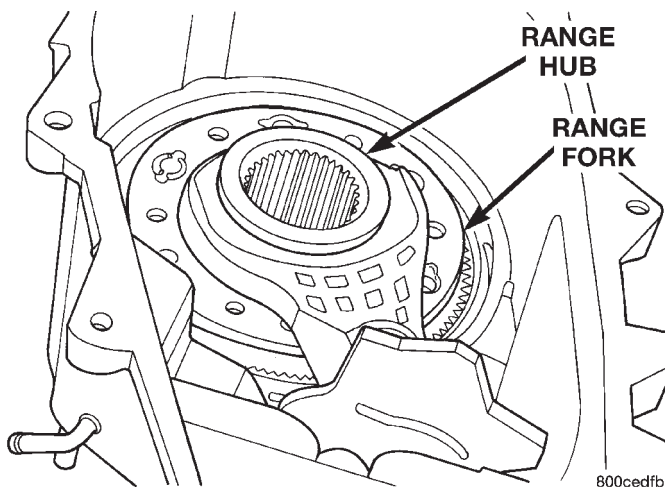

Fig. 60 Range Fork And Hub Assembly/Installation
(4) Assemble and install range fork and hub (Fig. 60). Be sure hub is properly seated in planetary carrier and engaged with input gear.
(5) Align and insert range fork pin in shift sector slot.